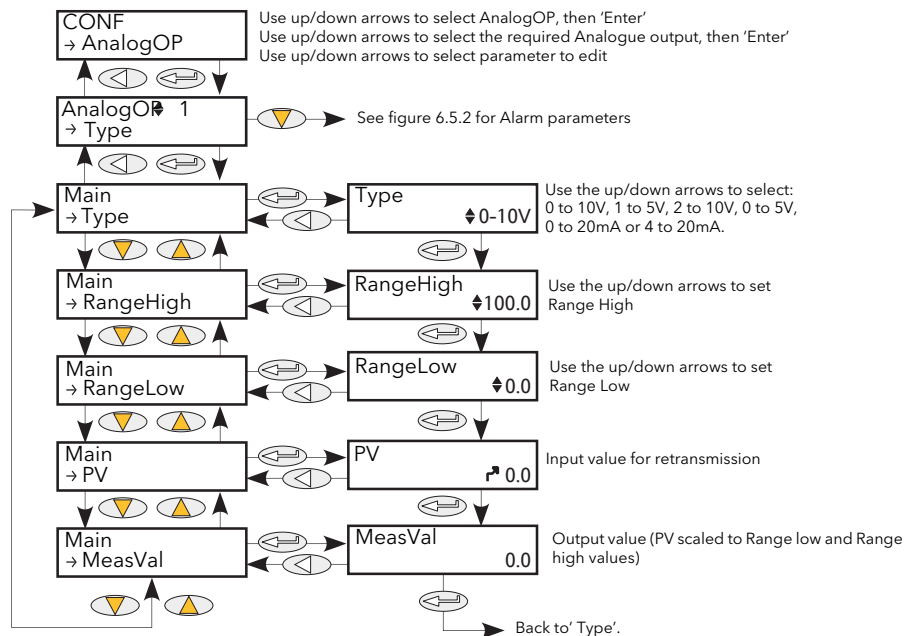
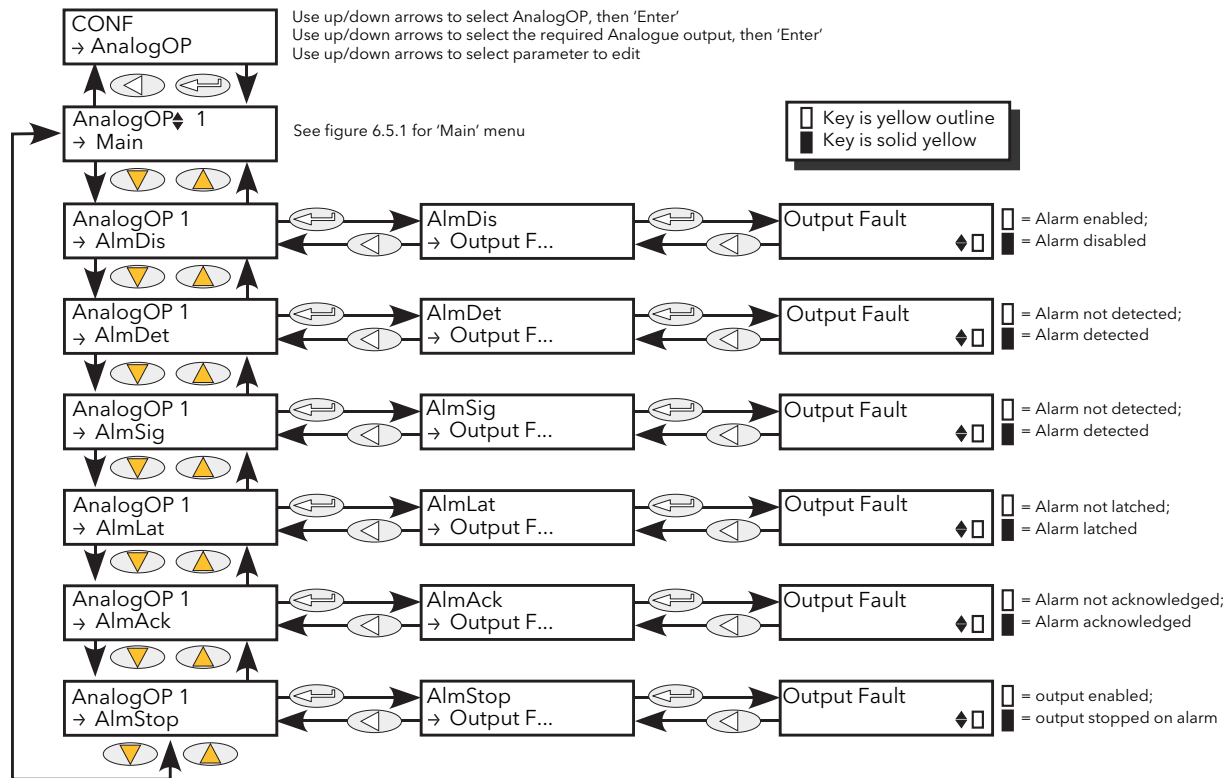

Figure 6.5.1 Analogue output 'Main' menu
Figure 6.5.2 Analogue output alarm parameter access
This provides a current or voltage output scaled from a Process Variable (PV) using Range High and Range Low. Figure 6.5.1 shows the 'Main' configuration submenu; figure 6.5.2 shows the alarm parameters.